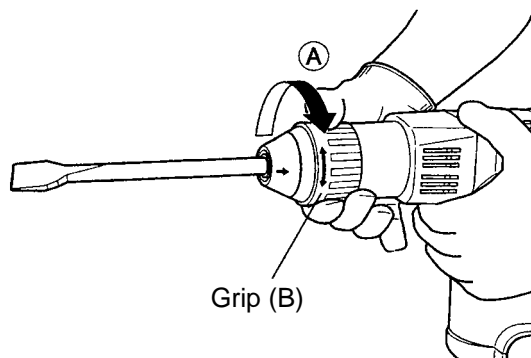
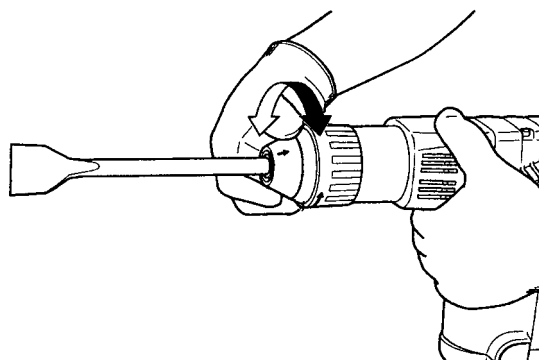

Fig. 9
Fig. 10
The tool can be turned every 30 degrees and can be fixed at the position of 12 steps. Grip (B) is turned 60 degrees in (A) direction (Fig. 9), the tool swivel angle can be changed freely to any desired position. (Fig. 10) It is locked completely by returning Grip (B) back to the original position.